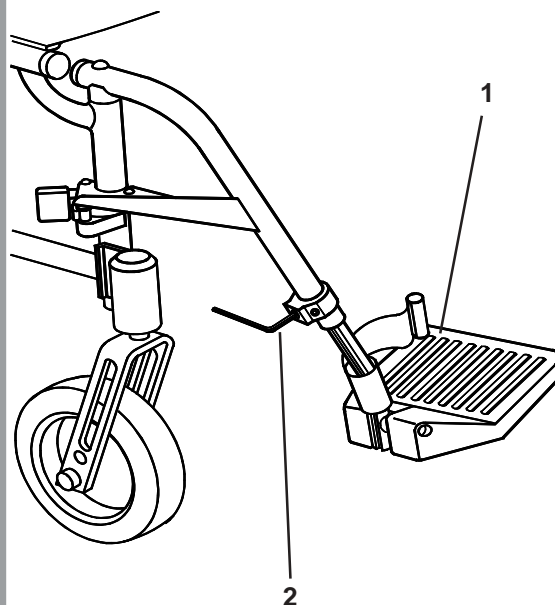

Fig. 28
To adjust the footplate (1) height, loosen the screw (2), using a 4mm Allen key located as shown (Fig. 28), and set the footplate height to the required position. Tighten the screw to 5-8Nm torque.